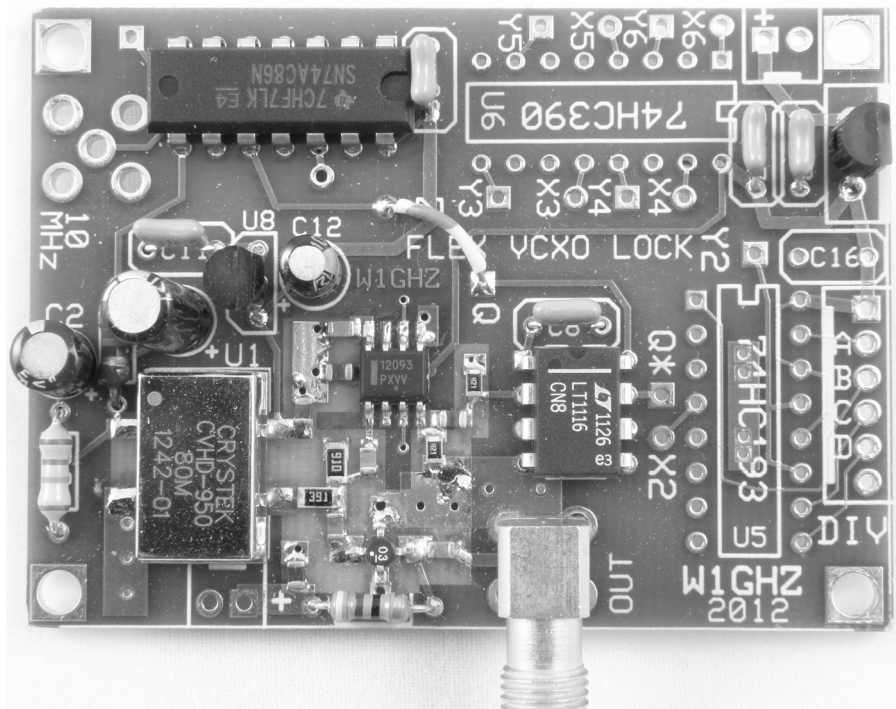

Figure 3 — 80 MHz VCXO board
**80 MHz** — The simplest example is an 80 MHz VXCO, useful as the LO source to multiply to 2160 MHz (2304), 3600 MHz (3456), and 10800 MHz (10368). The board is shown in Figure 3 — 80 MHz is divided by 8 in the MC12093 prescaler chip (select  $\div 8$  by grounding pins 3 and 6) to 10 MHz, then compared directly with the 10 MHz reference. This board locks right up with a clean output.
The Crystek VCXO shown in Figure 3 has four solder pads, matching the PC board, while the Abracon ABLJO-V VCXO used at